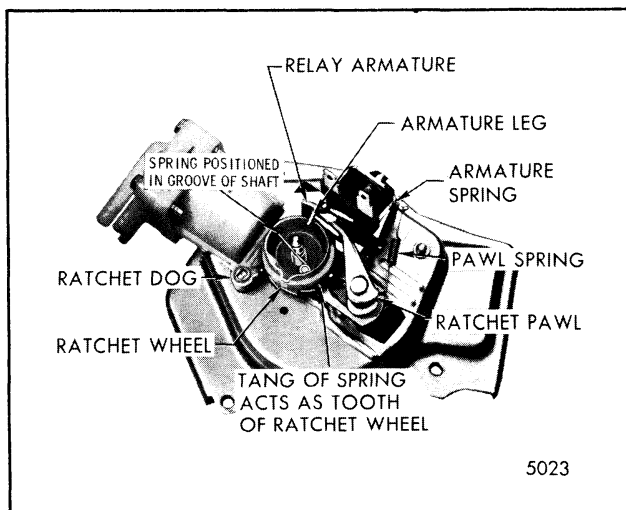

Fig. 2-68-Pump Mechanism
The programming section of the pump mechanism consists of a relay, ratchet pawl, ratchet wheel, and ratchet wheel dog (Fig. 2-68).
1. A leg on the relay armature rides up a ramp located on the outer surface of the ratchet wheel. When the leg reaches the top of the ramp, it moves over the top edge of the ratchet wheel. This action allows the ratchet wheel pawl to re-enter the armature opening preventing further rotation of the ratchet wheel until the next time the relay coil is energized from the washer button. (Refer to Fig. 2-68 for position of armature leg while pump is idling.)